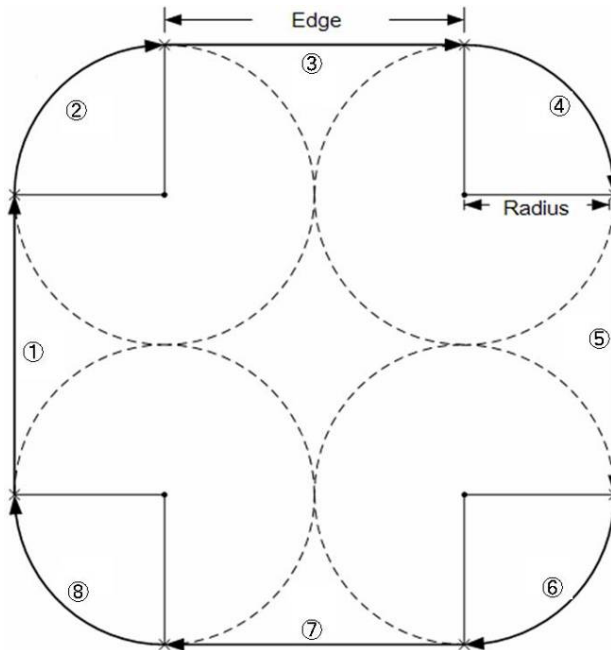

Figure 3.60
The following procedures ①~⑧ will realize the continuous interpolation motion shown in Fig. 3.60. t
- ① `rt = _DMC_01_start_ta_move_xy(gDMCCardNo, gLine2, gSlot2, 0, edge, 0, radius, 0.1, 0); // Deceleration set to 0`
- ② `rt = _DMC_01_start_ta_arc_xy(gDMCCardNo, gLine2, gSlot2, radius, edge, 90, 0, radius, 0, 0); // Acceleration and deceleration set to 0`
- ③ `rt = _DMC_01_start_ta_move_xy(gDMCCardNo, gLine2, gSlot2, edge + radius, edge + radius, 0, radius, 0, 0); // Acceleration and deceleration set to 0`
- ④ `rt = _DMC_01_start_ta_arc_xy(gDMCCardNo, gLine2, gSlot2, edge + radius, edge, 90, 0, radius, 0, 0); // Acceleration and deceleration set to 0`
- ⑤ `rt = _DMC_01_start_ta_move_xy(gDMCCardNo, gLine2, gSlot2, edge + radius*2, 0, 0, radius, 0, 0); // Acceleration and deceleration set to 0`
- ⑥ `rt = _DMC_01_start_ta_arc_xy(gDMCCardNo, gLine2, gSlot2, edge + radius, 0, 90, 0, radius, 0, 0); // Acceleration and deceleration set to 0.`
- ⑦ `rt = _DMC_01_start_ta_move_xy(gDMCCardNo, gLine2, gSlot2, radius, 0 - radius, 0, radius, 0, 0); // Acceleration and deceleration set to 0`
- ⑧ `rt = _DMC_01_start_ta_arc_xy(gDMCCardNo, gLine2, gSlot2, radius, 0, 90, 0, radius, 0, 0.1); // Acceleration set to 0`